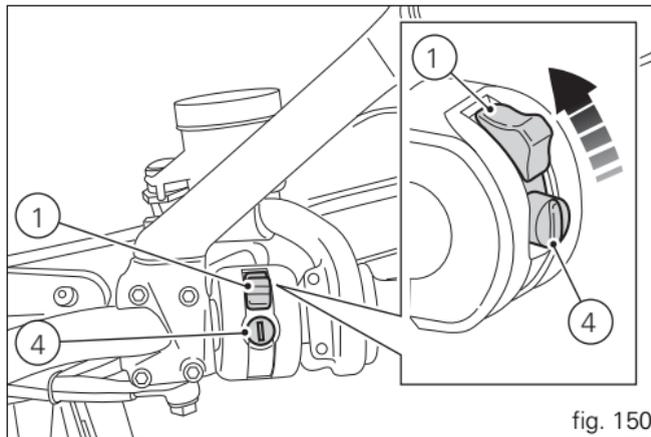

fig. 150
Move the red switch (1) up to uncover the black button (4, fig. 150).
The engine will shut off by turning the red key (1, fig. 150) on the handlebar to RUN OFF.